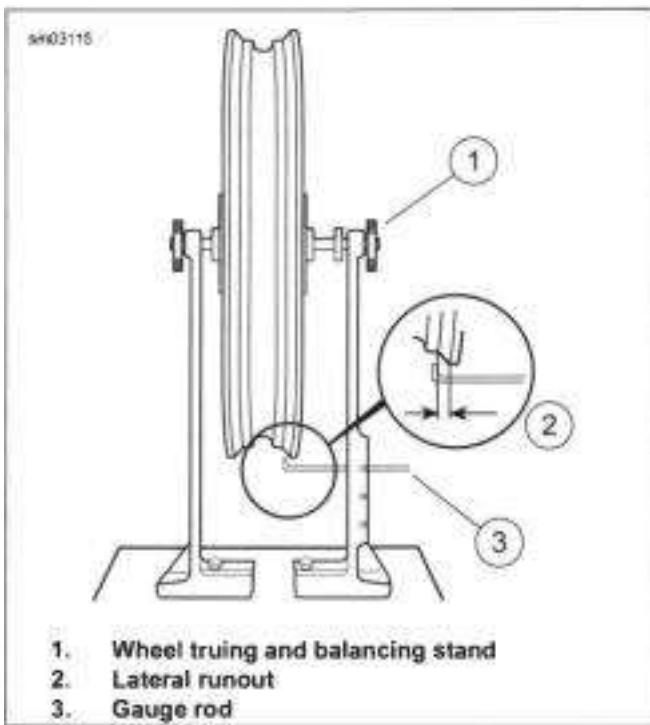

Figure 3-14. Checking Lateral Runout
1. See Figure 3-14. Mount wheel in WHEEL TRUING STAND (PART NUMBER: HD-99500-80).